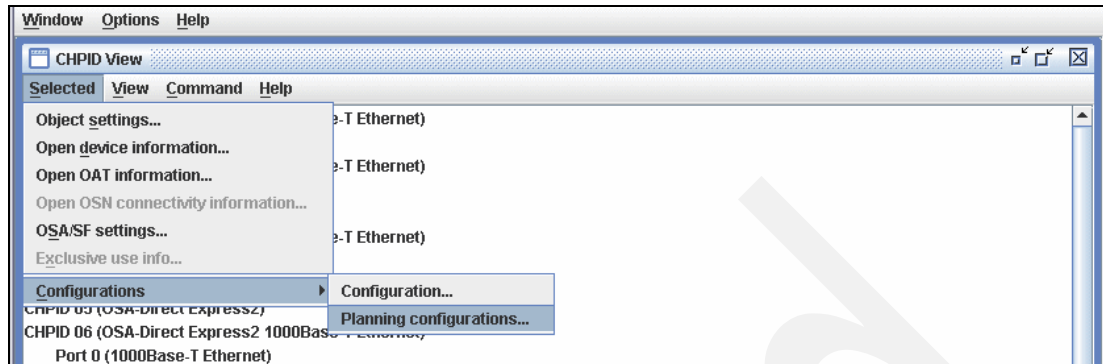

Figure 3-21 OSA/SF Workstation Interface - Planning configurations
- From the OSA/SF main view, initialize the CHPID view. Select **Configurations** → **Planning configurations...** (Figure 3-21).